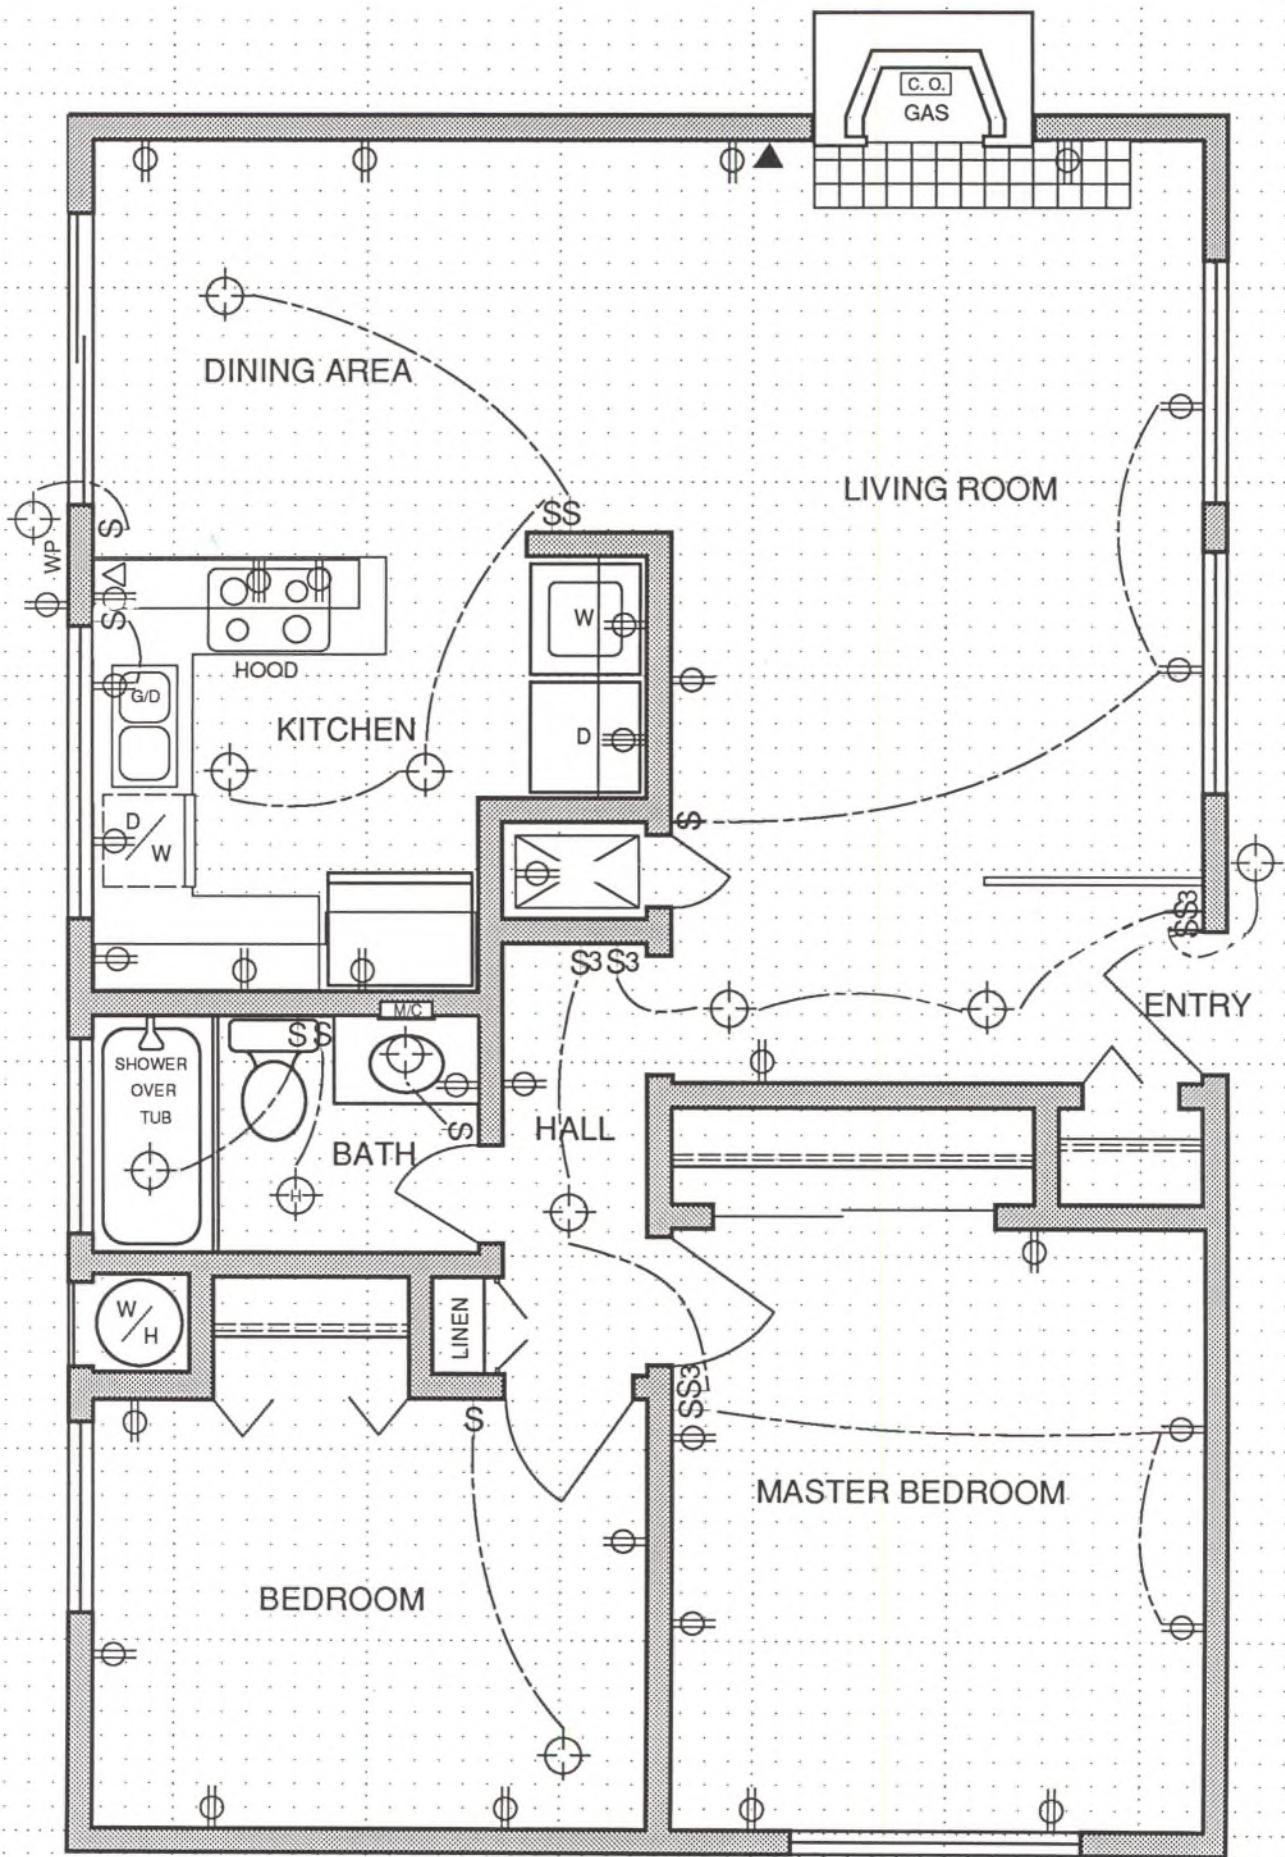

Fig. 12.10 Floor-plan example showing a typical wiring diagram.
The electrician who wires the house will perform the work according to local building code requirements, but will have no way of knowing how the rooms will be used or what the special requirements are unless all of the electrical symbols are clearly drawn on the plan. Figure 12.10 shows a completed floor plan with electrical outlets added to it. For larger jobs, a separate electrical sheet showing walls, cabinets, windows, and door swings, plus wiring details and specifications, is often used.
Use the light switch symbols shown in Fig. 12.3 to indicate light switches on your plan. Light switches are frequently located beside doors. Refer to your preliminary studies and consider the direction of the door swing when choosing correct placement. To clarify which switch turns on which light, connect the switch to the light with a curved, dashed line as in Fig. 12.10. If the switch chosen will activate an outlet, simply dash a curved line from the switch to the outlet. Switch-activated wall outlets are useful for lighting with lamps.
6. Fig. 12.10 shows both types of wardrobe doors drawn on the floor plan.